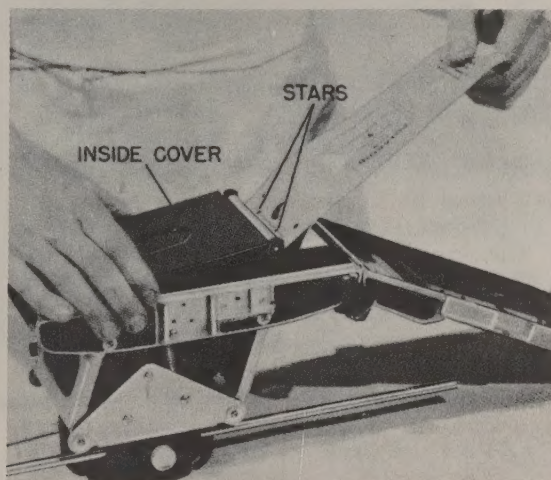

Figure 9 - Closing Inside Cover
C. Close inside cover and draw wrapper out until the printed stars on the wrapper appear beyond the roller. Fold wrapper back over steel roller and lay film flat between the two red guide tabs on the inside cover corners. Steel roller should be visible through two holes in the film roll. See figure 9.